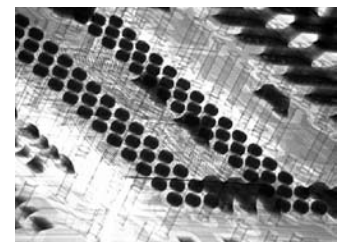

Figure 4. Adequate Ball Collapse
4) Adequate ball collapse – a 3D image of the solder joints can show proper reflow of the solder balls underneath the BGA. Proper ball collapse however is not an indicator of the degree of wetting to the PCB pad. See Figure 4.